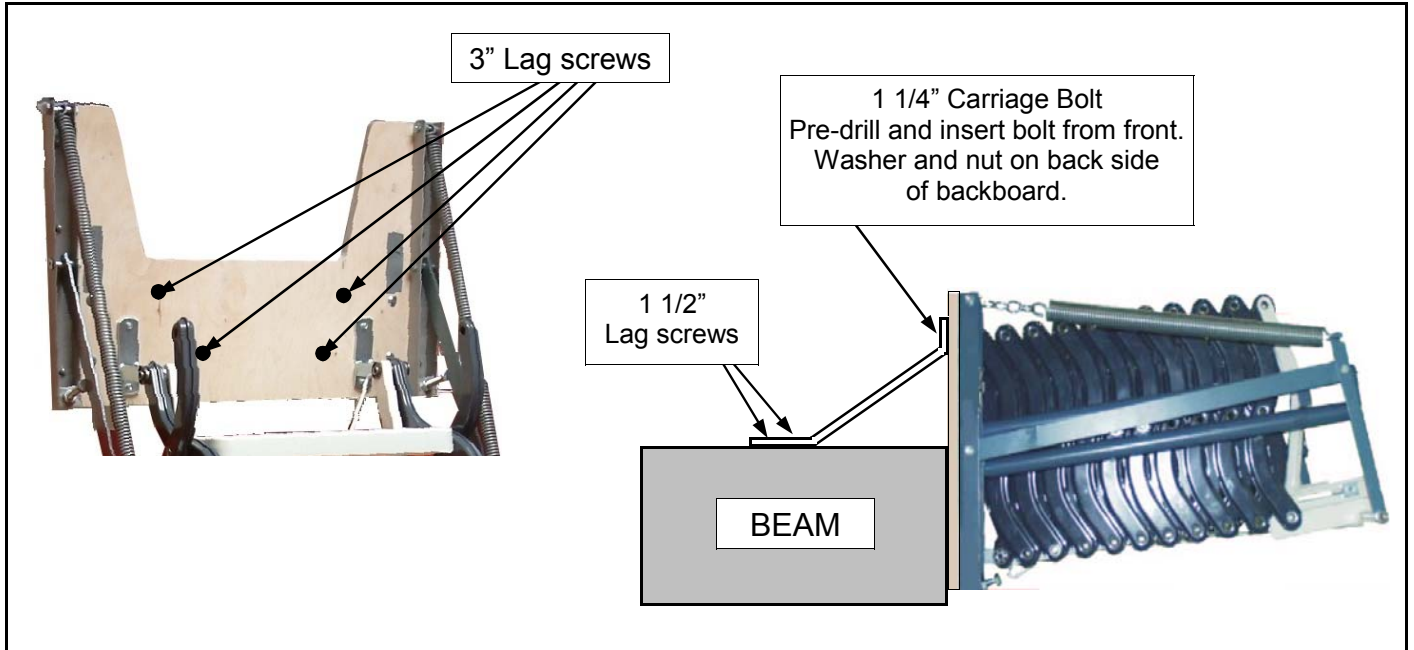

Figure 4
4. Set stair over beam as in diagram. Extend stair to expose front of backboard and lag screw to beam using four 3" screws supplied. **Do not stand on stair yet.** If beam is much shorter than backboard, then additional support can be achieved by using the two angle support bars supplied. Use two carriage bolts with washers and nuts at top and four 1 1/2" lag screws at bottom. Plastic anchors are only used if installing stair into concrete slab floor. Figure 4.